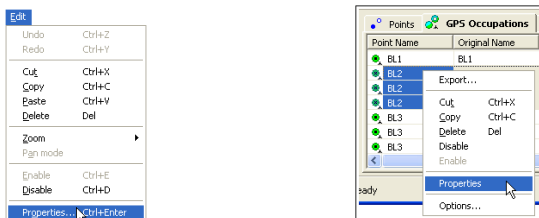

Figure 4-74. Display Properties Dialog Box
To view the **Properties** dialog box for selected single or multiple data types in the Tabular, Map, Occupation, or CAD view (Figure 4-74), do the following:
- Right-click a point/observation/occupation/line on the graphical or tabular view and click **Properties** (Figure 4-74).